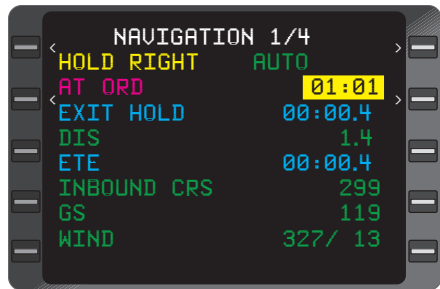

Figure 3-114
4. **ENT** Key - DEPRESS. The **NAVIGATION** Page indicates that the aircraft will **EXIT HOLD** the next time over the holding fix (aircraft will complete the loop around the holding pattern). (Figure 3-114)